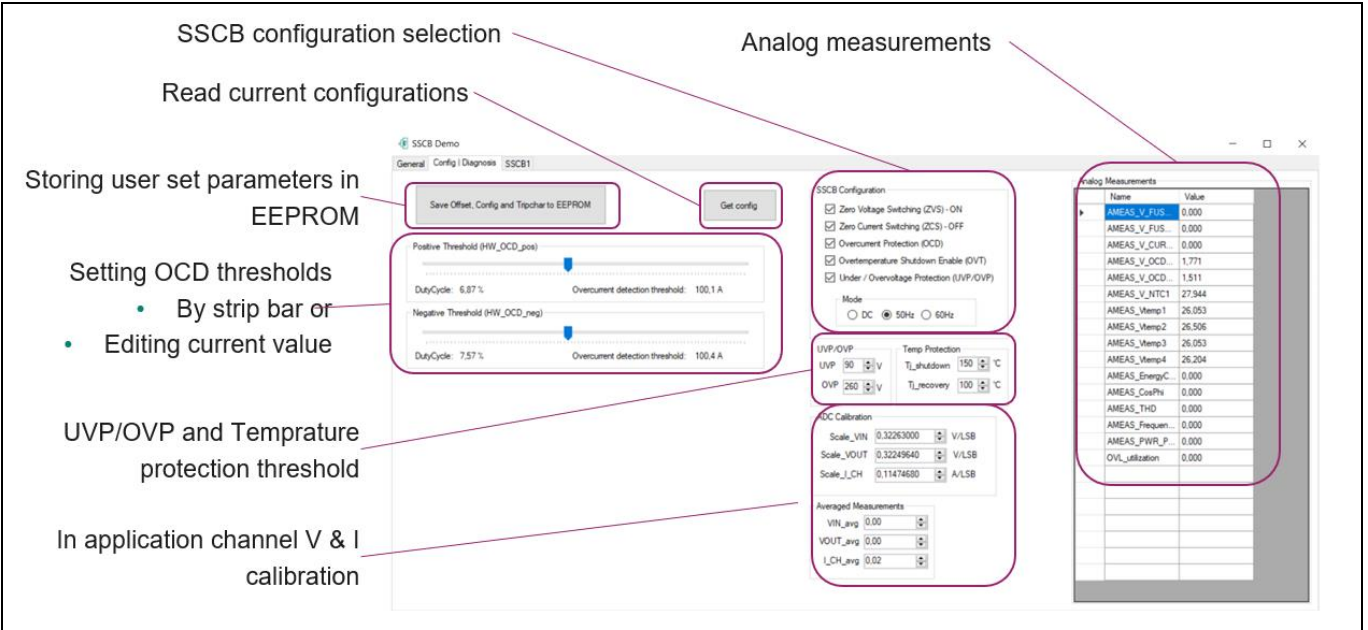

Figure 17 GUI Config|Diagnosis window
OVT	Any MOSFET overtemperature (OT) protection status. Green: normal condition; red: ($T_j > T_{j_shutdown}$) and resets automatically when ($T_j < T_{j_recovery}$) (refer Figure 17)